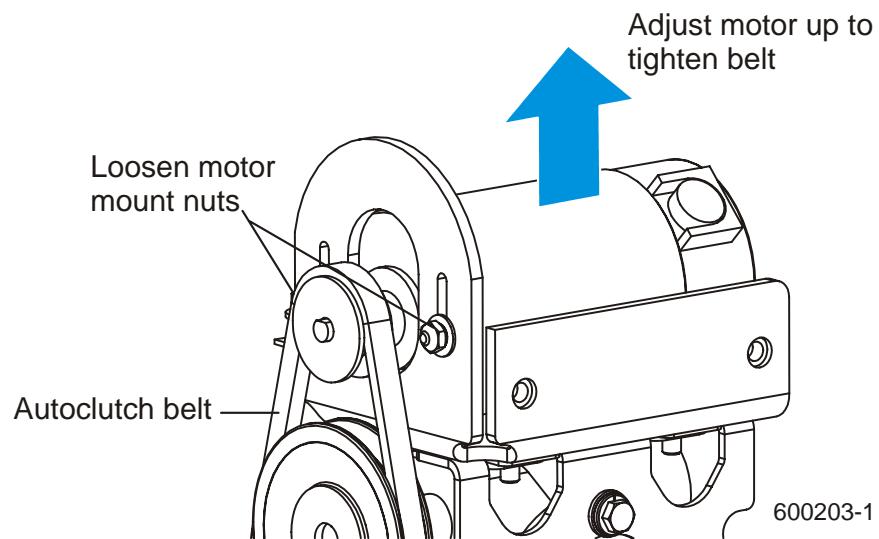

**FIG. 5-10**
**See Figure 5-10.** The brake should be adjusted so the blade stops no more than 7 seconds after turning the blade switch off. Loosen the jam nuts around the adjustment turnbuckle and turn the turnbuckle to adjust the brake. Retighten the jam nuts.